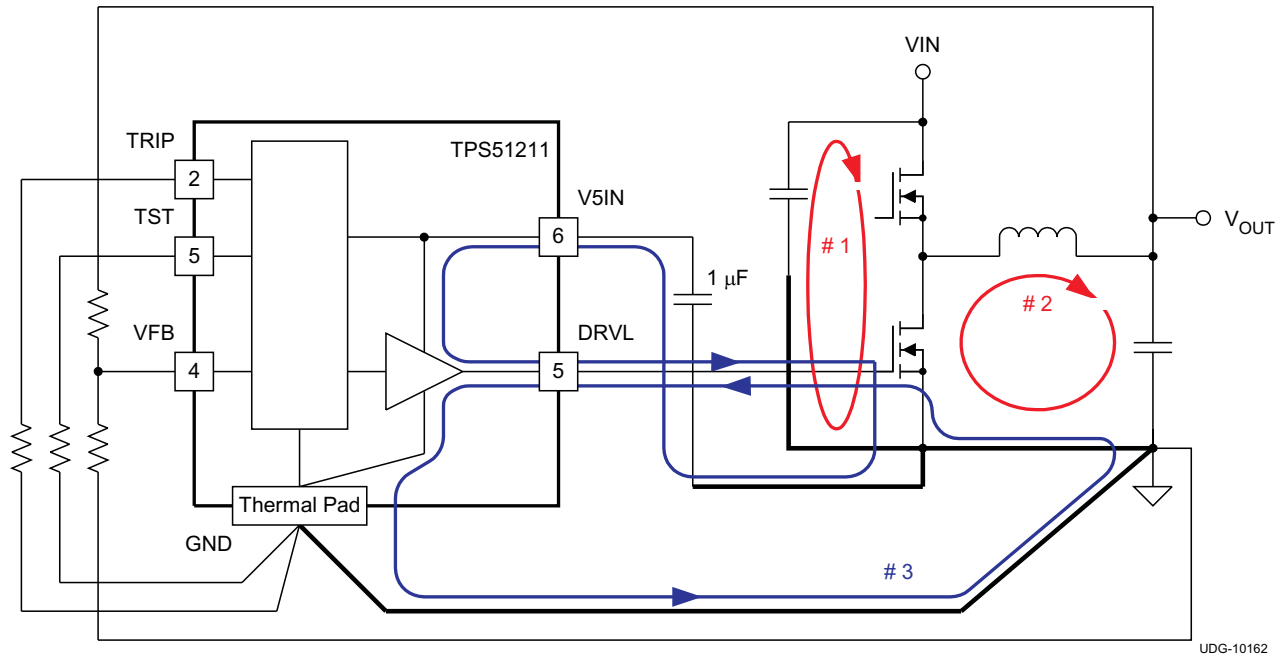

Figure 16. Ground System of DC/DC Converter Using the TPS51211
- The most important loop to minimize the area of is the path from the V_{IN} capacitor(s) through the high and low-side MOSFETs, and back to the capacitor(s) through ground. Connect the negative node of the V_{IN} capacitor(s) and the source of the low-side MOSFET at ground as close as possible. (Refer to loop #1 of Figure 16)
- The second important loop is the path from the low-side MOSFET through inductor and V_{OUT} capacitor(s), and back to source of the low-side MOSFET through ground. Connect source of the low-side MOSFET and negative node of V_{OUT} capacitor(s) at ground as close as possible. (Refer to loop #2 of Figure 16)
source of the low-side MOSFET through ground. Connect negative node of V_{5IN} capacitor, source of the low-side MOSFET and GND pad of the device at ground as close as possible. (Refer to loop #3 of Figure 16)